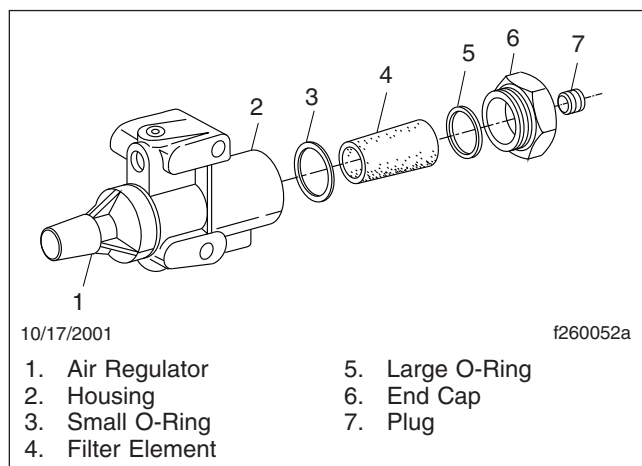

Fig. 7, Eaton/Fuller Transmission Air Filter/Regulator Components
- Remove the end cap, large O-ring, and filter element from the filter housing. See **Fig. 7**. Remove the small O-ring from the end cap.